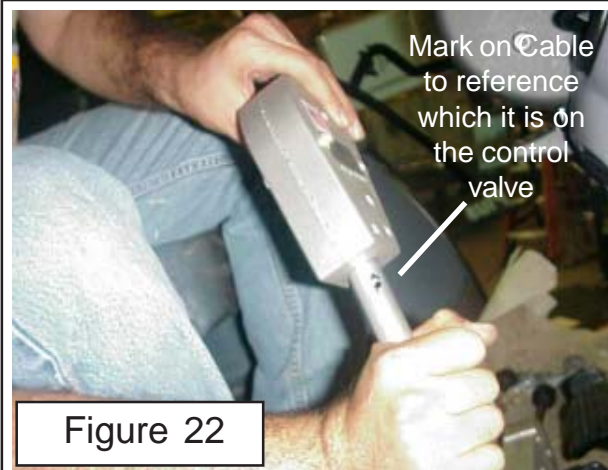

Figure 22
6. Mark Which Cable is Which. It is important that each cable be marked as to which one it is in relation ship to the valve. Start with the cable closest to the engine and mark it 1, next mark 2 (See Figure 22). These marked cables will make a difference when mounting the control cable handle assemblies to the mounting bracket.
12. The control lever assemblies will bolt together to form a group of handles, there will be 4 handles bolted together along with the switch mounting brackets. (See Figure 22 & 23) The switches will mount to these brackets. Dual Wings models will have two switches. The switch for the left wing mount on the left and switch for the right wing mounts on the right (See Figure 22 & 23). The same two long bolts that go through cable control handles will go through switch brackets.